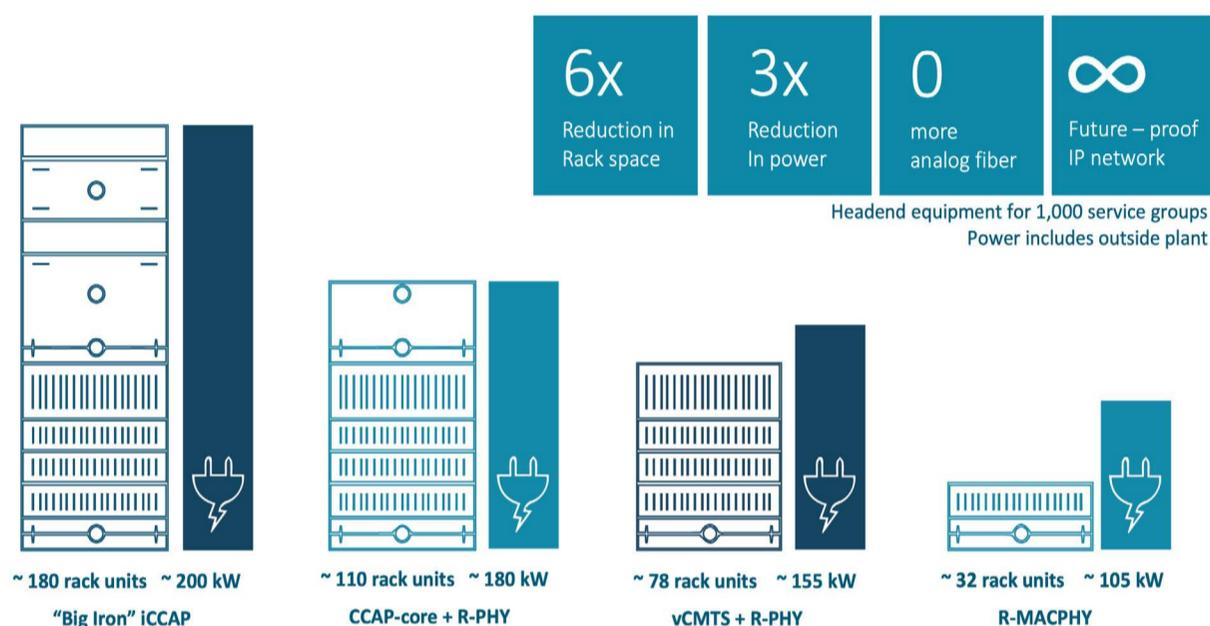

Figure 2: Comparing Space and Power Requirements for DAA Approaches
- Minimizes power and cooling requirements (See *Figure 2: Comparing Space and Power Requirements for DAA Approaches*)